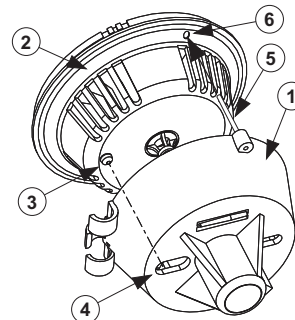

Figure 3: Placing DT-2 on Detector
**Note:** See Figure 3. Make sure that the pole is straight underneath the detector (#2) and line-up the detector LED (#3) with the LED slot (#4) in the DT-2 (#1). The Tamper release pin (#5, Figure 3) will fit into the hole (#6, Figure 3) on the detector for the tamper release.